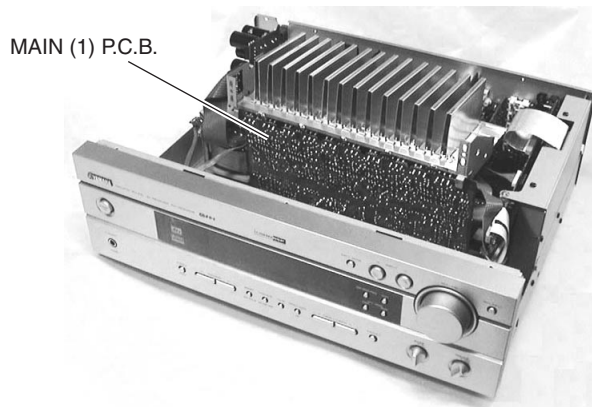

Fig. 7
- c. Raise the MAIN (1) P.C.B. (Fig. 7)